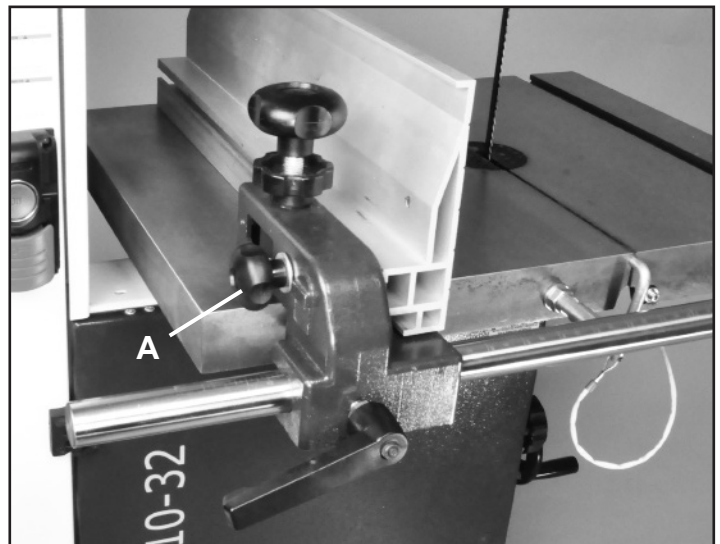

FIGURE 3
3. Slide the Fence Carrier Assembly (#9) onto the fence's guide rail. Fig. 3.
4. Slide the Rip Fence (#18) onto the fence carrier's Sliding Block (#11) and lock it in place by tightening the fence lock Knob (#7) which is located on the carrier, opposite side to the fence. Fig. 3, A.